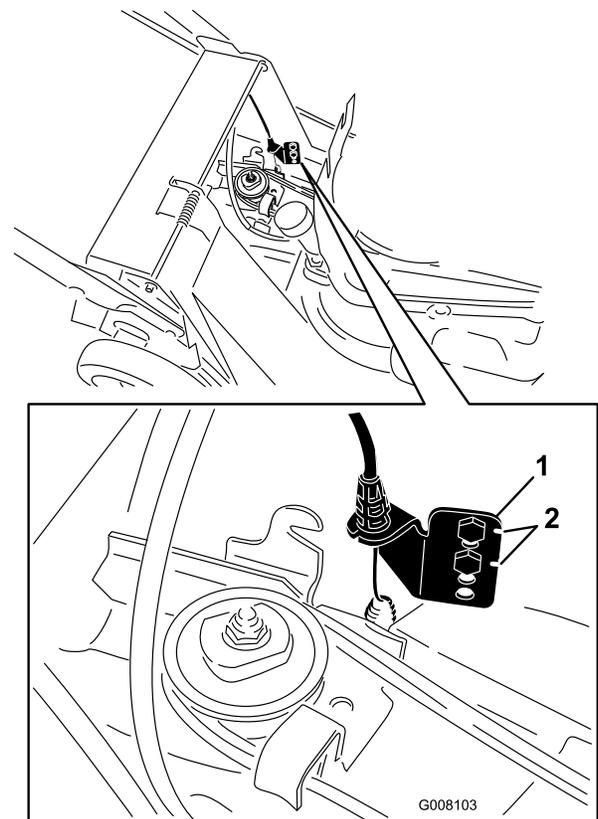

Figure 27
7. Remove the screws from the lower anchor bracket (Figure 27).
8. Move the lower anchor bracket up one hole (Figure 27).
Note: When you install a new belt, move the lower anchor bracket to its original factory position, which is indicated by the notches next to the holes in the bracket (Figure 27).